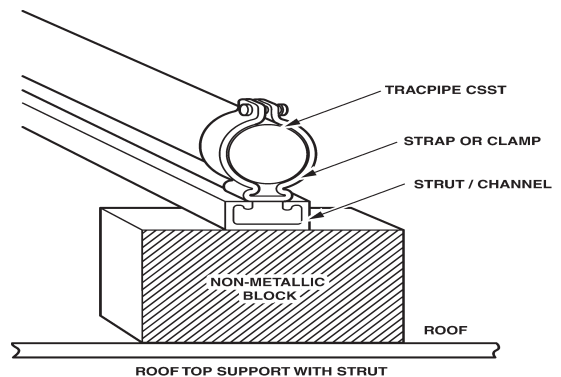

Figure: 4-40
3. **TracPipe** and **TracPipeCounterStrike** CSST can be supported using a galvanized shallow channel (13/16 inch) with splice plates at joints and bends. This provides a secure and damage-resistant track for the flexible gas pipe, which can be attached to each block with metallic clamps designed for the strut or appropriate fastening mechanism. With metallic strut support, blocks can be reduced to every 8 feet. Black cable ties (UV resistant) at intermediate points facilitate rolling out the **TracPipe** and **TracPipeCounterStrike** CSST. The blocks should be attached to the roof surface according to the roofing manufacturer's instructions. Please refer to **Figure 4-40** for more details.